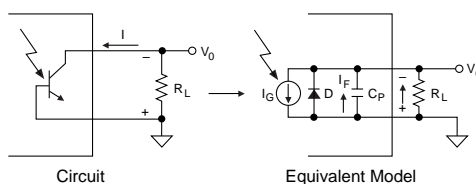

Figure 3. Photovoltaic Model
When the LOC is used in the photovoltaic mode the phototransistors are operated with the collector and base forward biased. Figure 3 shows a typical circuit with a simplified model. In this mode the phototransistor has no external power source available to it like in the photoconductive mode where there was a +V source at the collector. Instead, the phototransistor delivers power to an external load,  $R_L$ , in response to the LED emission. Since there is no external power source connected to the phototransistor there is no dark current.
Referring to figure 3, as the current I increases with an increase in incident LED flux, a voltage is developed across RL. This voltage however becomes increasingly nonlinear as more current (IF) begins to flow through the intrinsic diode D or as RL is increased in value. This can be illustrated by looking at a simplified equation of the current flow through the junction. The total current consists of two parts, one part is the current that flows through the intrinsic diode IF, the other is the photogenerated current from the LED flux IG: